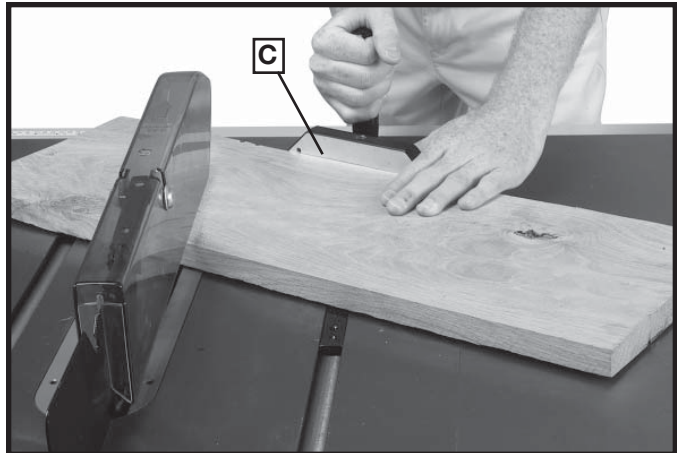

Fig. S5
Mitering (the operation shown in Fig. S5) is the same as crosscutting except the miter gauge (C) is locked at an angle other than 0 degrees. Hold the workpiece firmly against the miter gauge and feed the work slowly into the blade to prevent the workpiece from moving.